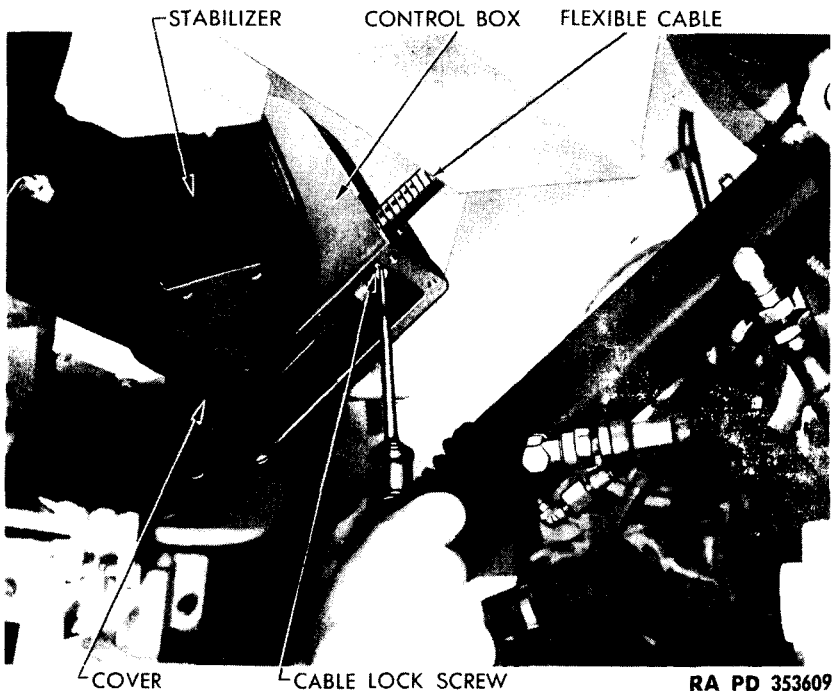
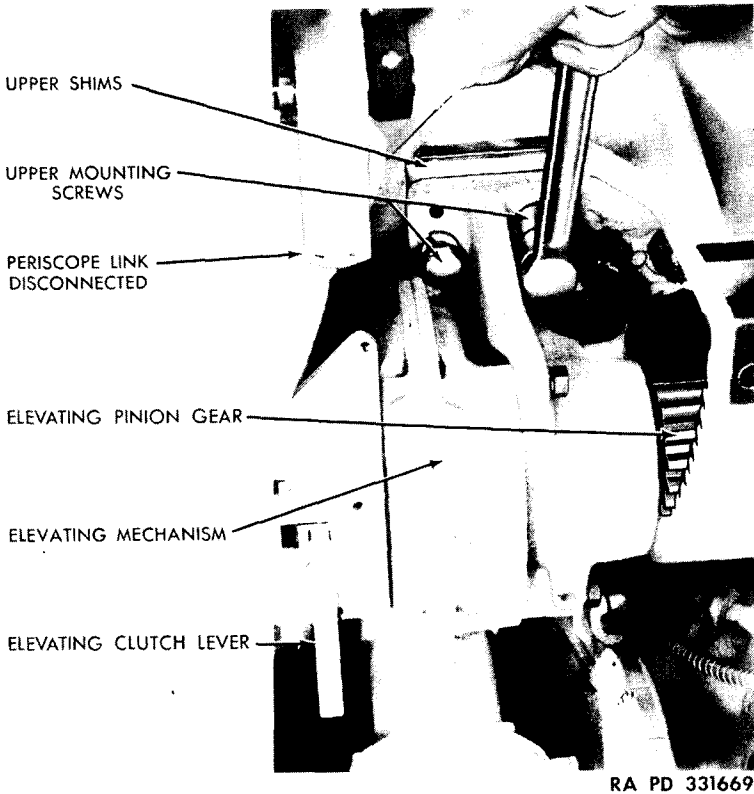

Figure 54. Removing cable from stabilizer control box (M24).
Figure 55. Removing elevating mechanism (M24).
c. REMOVE ELEVATING MECHANISM. Remove four screws from cover at front end of stabilizer control box. Loosen cable clamp screw and slide cable out of stabilizer control box (fig. 54). Cut locking wire and unscrew turnbuckle from periscope linkage. Remove four screws holding gun elevating mechanism to front of turret (fig. 55). Support assembly while removing last screw.